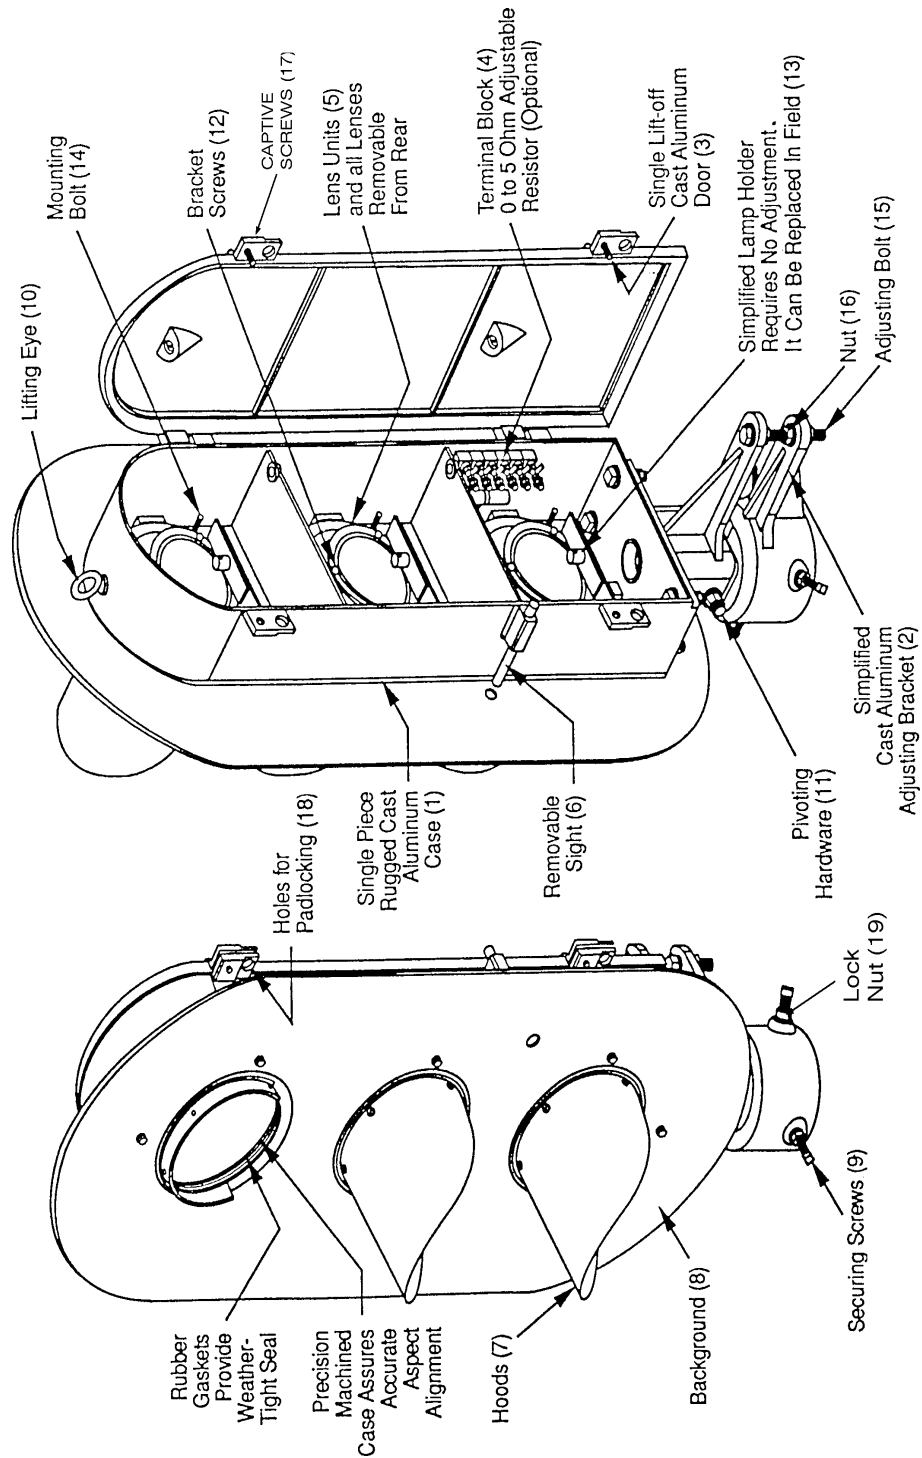

Figure 1. Three Aspect Type D Signal
The ALSTOM Sentinel Type D and G Long Range Color-Light Signals are easy to install and maintain. They are much lighter than the old style cast-iron signals. All signal cases have a lifting ring at the top for easier handling. The removable six-inch sighting tube provides easy alignment when installing a Sentinel signal. Figures 1 through 4 show the physical shapes of the signals for three or four indications.
Installing the signal complete consists of mounting the case, completing the wiring and aligning the signal to the tracks. Installation requires use of an AAR wrench, 1/2" and 3/4" open end wrenches, and a flat blade screwdriver. See Figure 1 for identifying signal components and mounting hardware.
Adjusting bracket (2) allows for independent horizontal and vertical adjustment. No realignment is required after maintenance. See Figure 1. The sight tube (6) provides easy alignment, and the precision machined housing assures aspect-to-aspect alignment. The sight tube is removable and interchangeable among Sentinel signals.
2. Mount sight tube (6) in sight block and align signal using sight tube cross-hairs as described in steps 3 and 4.
3. Horizontal adjustment is made by rotating adjusting bracket on mast. Loosen securing screws (9) and, looking through sight tube (6), rotate signal until vertical crosshair centers on vertical line of target. When centered, tighten three securing screws (9) and lock nuts (19).
4. Vertical adjustment is made by the lower set of nuts on the adjustment bolt (15) of the mounting bracket. To lower the alignment, back off the bottom nut until horizontal crosshair is aligned on horizontal line of target. Tighten nut (16) on opposite side of flange. To raise the alignment, loosen nut (16) until crosshair is aligned. Tighten bottom nut.
2. To change inner lens, loosen three screws (12) on bracket and rotate clips. Loosen two screws on lampholder assembly (13) and back off assembly far enough to remove inner lens. Refer to Figure 1.
3. To change outer lens, remove entire lens unit by removing three nuts and washers and slide entire lens unit off mounting bolts (14).